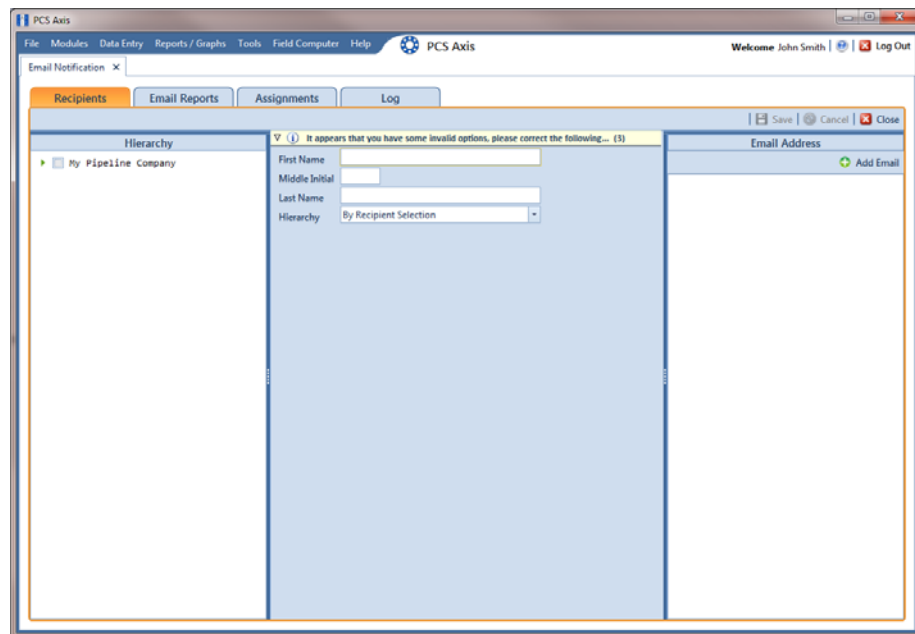

Figure 12-4. Recipients / Add External User
- 2 Click **+ Add External User**. Type the user's **First Name**, **Middle Initial** (optional), and **Last Name** in the respective fields located in the center panel of the window (Figure 12-4).